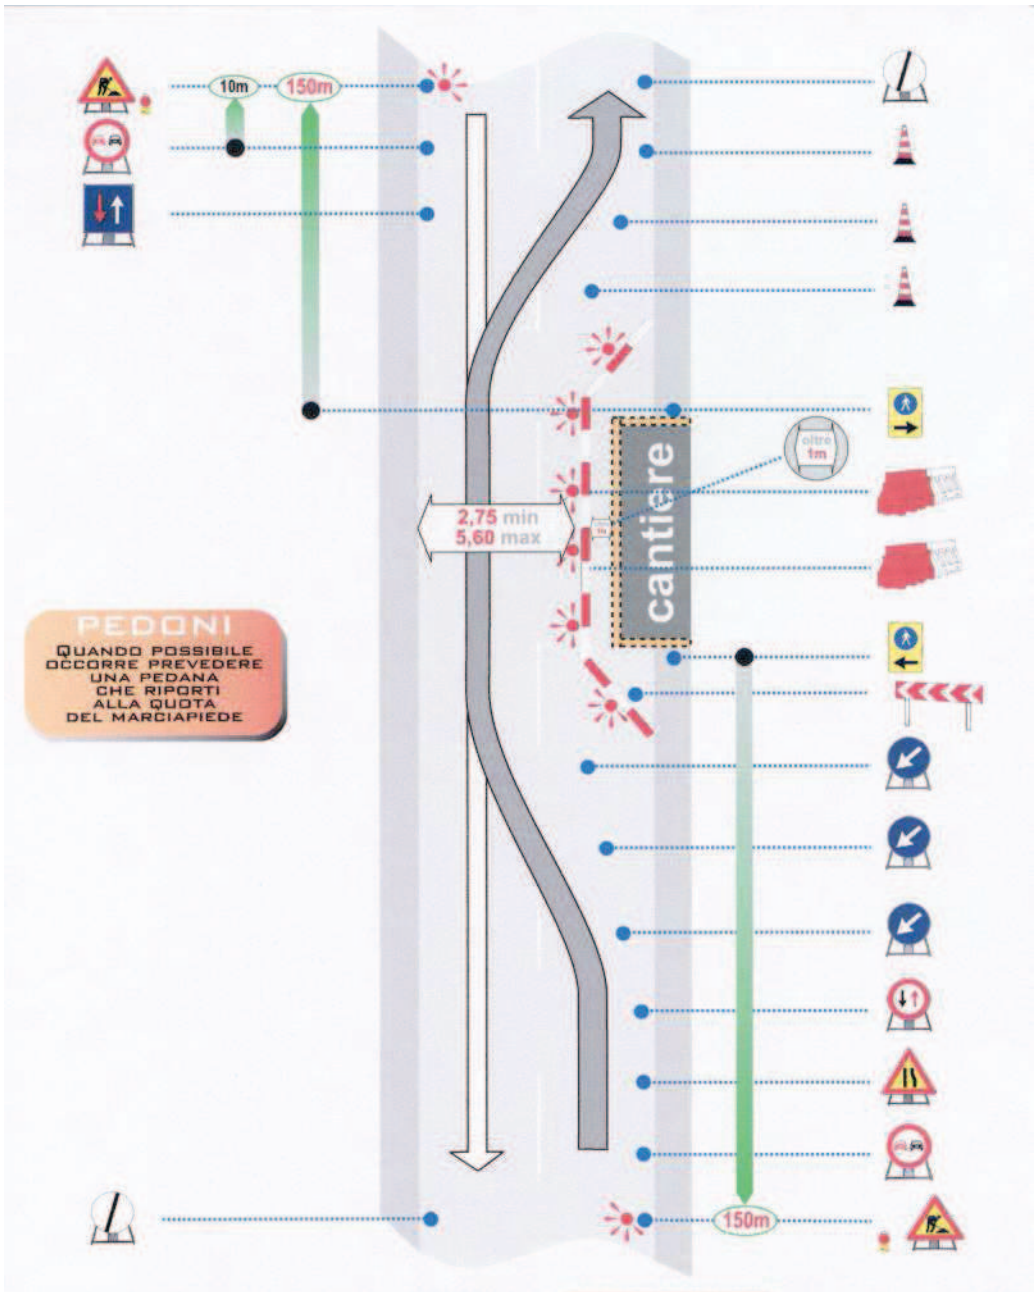

FIGURA 7B – CARREGGIATA LIBERA MINORE DI 5,60 M E LARGHEZZA CORSIA LIBERA DAI LAVORI MAGGIORE DI 2,75 M CON PASSAGGI PROTETTI PER PEDONI. FIGURA OPERATIVA.
- FIGURA 7B CARREGGIATA LIBERA MINORE DI 5,60 M E LARGHEZZA CORSIA LIBERA DAI LAVORI MAGGIORE DI 2,75 M CON PASSAGGI PROTETTI PER PEDONI. FIGURA OPERATIVA.